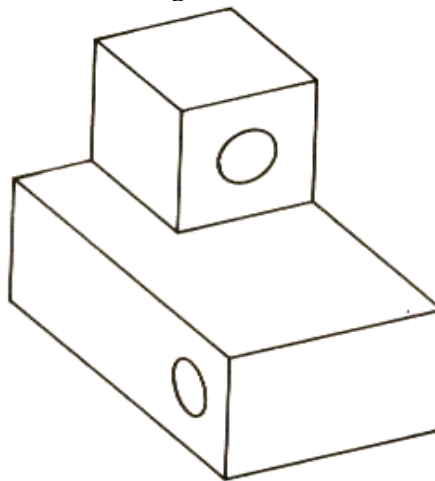

Figure QU3
- (b) (i) Determine whether the feature shown in Figure QU3 is topologically consistent using the Euler Poincare formula. [6]